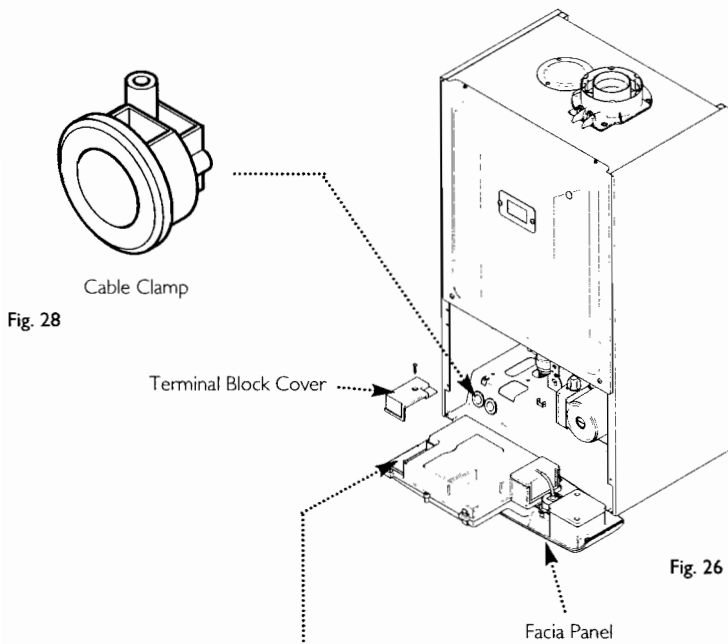

Fig. 28
4. Slacken the unused cable clamp on the LH side of the boiler chassis (Fig. 28). Insert the external control wiring through the clamp and route it to the terminal block.